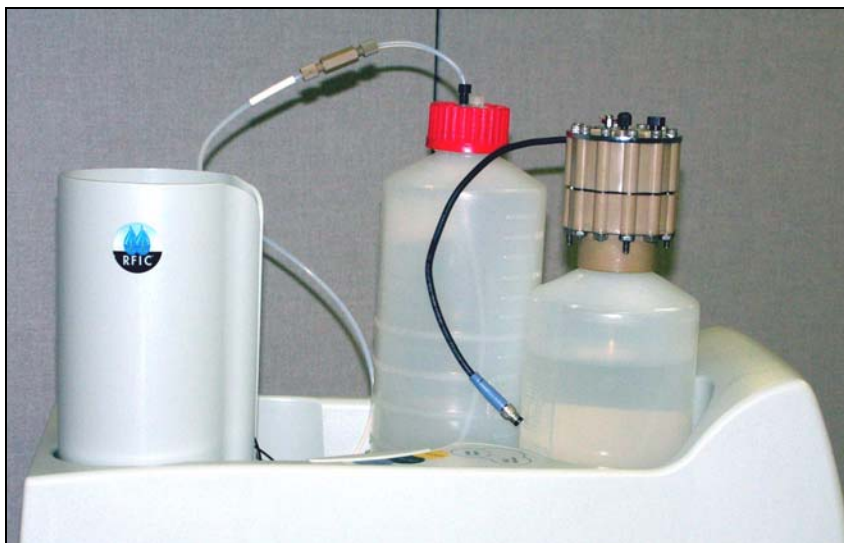

Figure 38. EluGen Cartridge in Service Area
2. Set the EluGen cartridge in the service area on top of the ICS-2000 and orient it with the cable toward the EGC holder (see Figure 38).